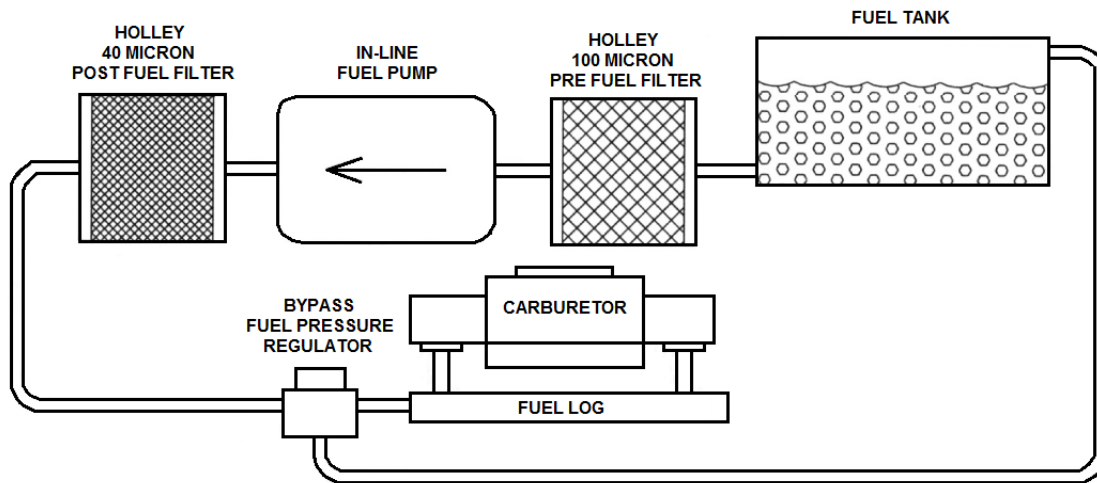
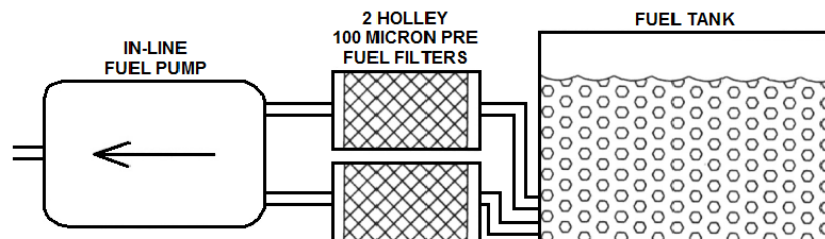

Figure 4a (Carb applications only)
Figure 4c
5. Connect the fuel supply line from the tank to the pre-filter and then to the inlet port of the pump. Connect the main fuel feed line to the outlet port of the pump, then to the post filter. See Figures 4a and 4b. If using a pump with dual inlets, both inlets MUST be plumbed or pump failure will occur! See Figure 4c.
(If using a pump with dual inlets, connect the fuel lines as shown and plumb the rest according to Figures 4a, 4b, or 4c.)